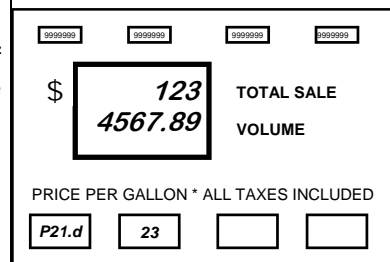

Figure 26.2
2. To read the money totals for Hose 2 and the remaining hoses, press the **ENTER** button or the number button for the hose (1,2,3,4). The price display reads P 21.d for Product 2, Money Total, Menu Code 26. See Figure 26.2.